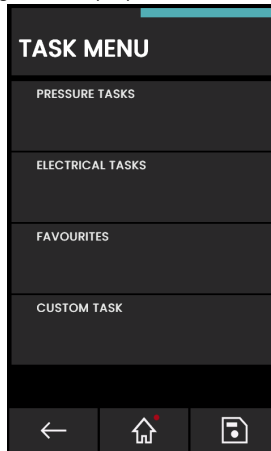

Figure 3-4: Task Menu
1. Select **CUSTOM TASK** from the **Task Menu** (see Figure 3-4 on page 37). This shows the **TASK SETTINGS** screen.